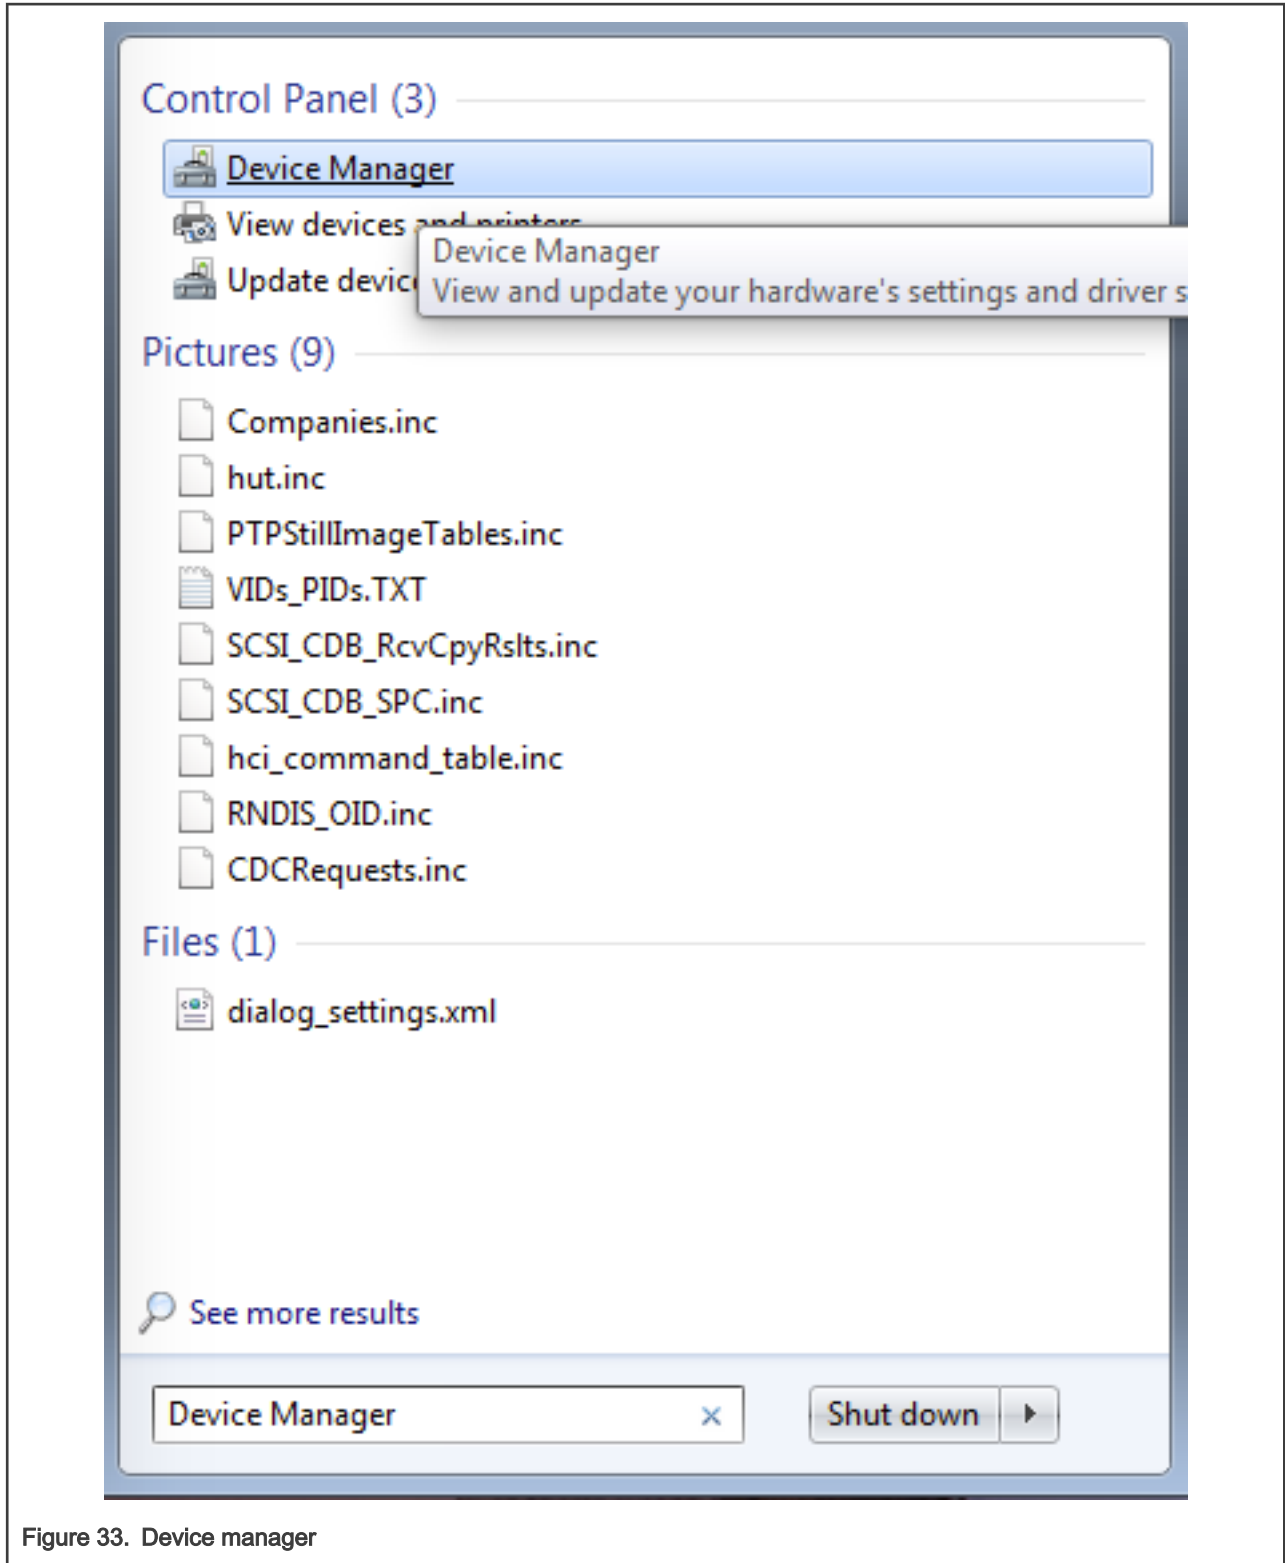

Figure 33. Device manager
- To determine the COM port, open the Windows operating system Device Manager. This can be achieved by going to the Windows operating system Start menu and typing **Device Manager** in the search bar, as shown in Figure 33.